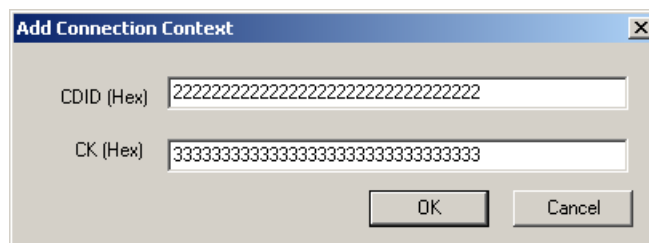

Figure 9.39 Add Connection Context Dialog Box
Step 3 Click **Add** to display the Add Connection Context dialog box (see Figure 9.39).